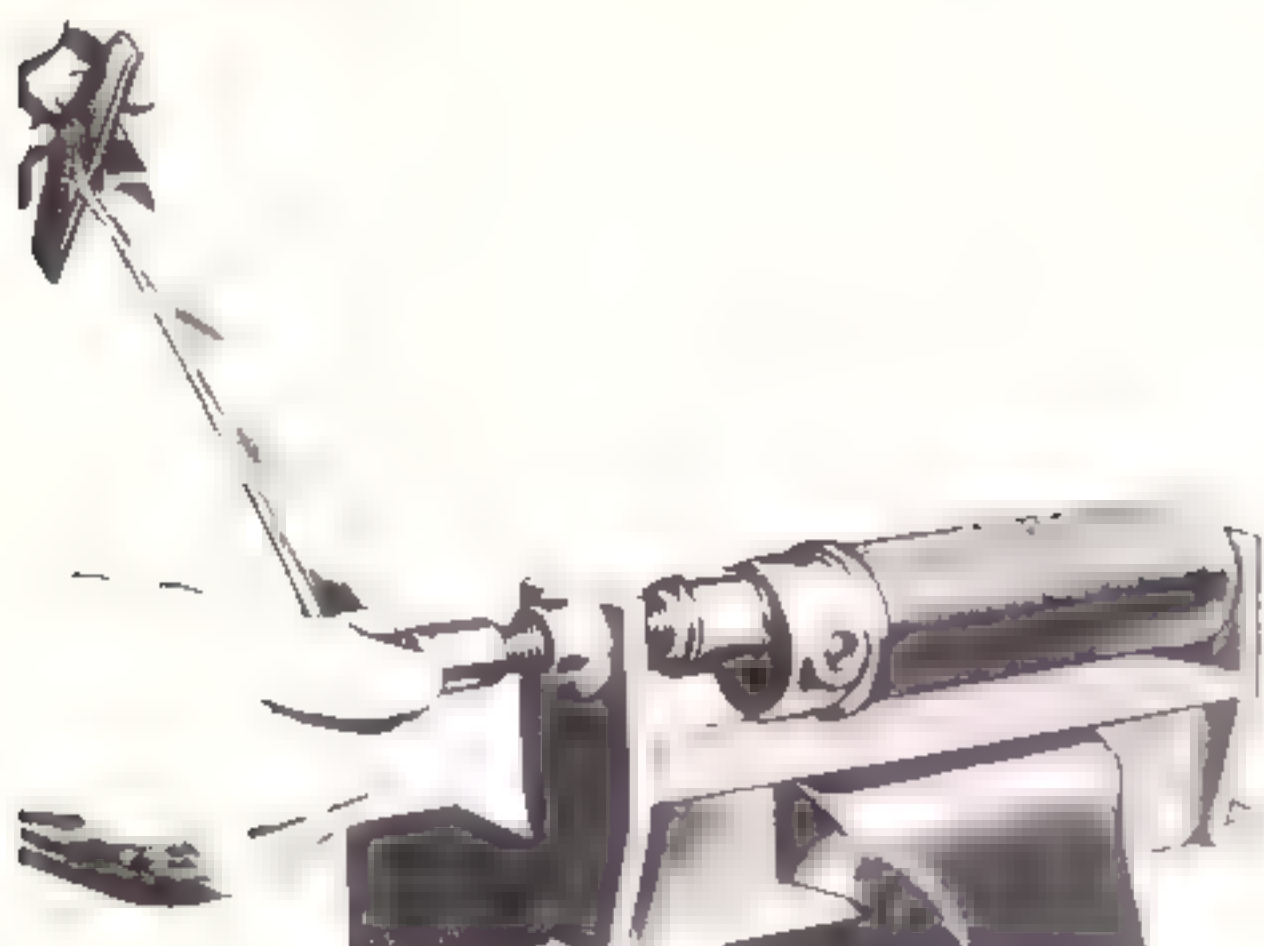

Figure 5-48. Compressing strainer elements
c. Compress strainer elements and retaining washer by tightening square drive of fixture to a minimum torque of 20 inch-pounds. (See figure 5-48.)